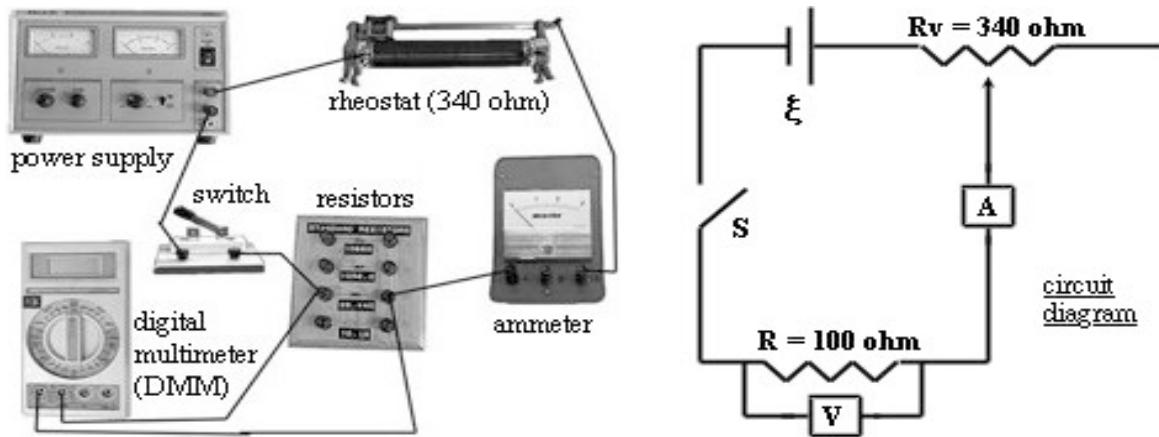

Figure 3.1. Circuit connections.
An ammeter measures the electrical current that flows through it. To measure the current flowing through a particular device in a circuit, the ammeter must be connected in such a way that the same current flows through the ammeter as through the device. The ammeter is simply a flow meter for the electrical current, so the wire at one end of the device must be disconnected and the ammeter inserted. The disconnected wire end is now connected to one terminal of the ammeter and a new wire is connected between the second terminal of the ammeter and the device to restore the flow of current through the circuit. This type of connection is called a "series" connection. The ammeter in Figure 3.1 is represented by a box marked with the letter "A".
Caution: If current flows backwards through the ammeter, the ammeter tries to respond by registering a negative current. Since the meter needle can only show positive values, this can damage the meter. To check that the ammeter is connected with the correct polarity, quickly tap the knife switch (See Figure 3.1) before closing it completely. If the meter does try to deflect in the negative direction, exchange the connections of the two wires connected to the ammeter.
In this exercise the voltage across and the current through a known resistor are measured as the current through the circuit is varied. The power supply voltage is kept constant, but the current flowing in the circuit is controlled with a variable resistor, also called a rheostat. (See Figure 3.1.)
Caution: If current flows backwards through the ammeter, the ammeter tries to respond by registering a negative current. Since the meter needle can show only positive values, this can damage the meter. The ammeter can also be damaged if the magnitude of the current is much larger than the current rating of the chosen scale. To check that the ammeter is connected with the correct polarity and to a safe current scale, quickly tap the knife switch (See Figure 3.1) without closing it completely. If the meter tries to deflect in the negative direction, exchange the connections of the two wires connected to the ammeter. If the meter tries to deflect off-scale in the correct direction, use a current scale with a higher current rating. If the meter passes these two tests, close the knife switch completely and proceed to make measurements.
2. Build the circuit shown in Figure 3.1, leaving the switch open, that is, not making electrical contact. Be sure to use an ammeter scale with a current rating large enough to measure the maximum current you calculated above. By convention ammeters read positive when electrical current flows into the positive terminal (red) of the meter and then flows out of the negative terminal (black) of the meter.